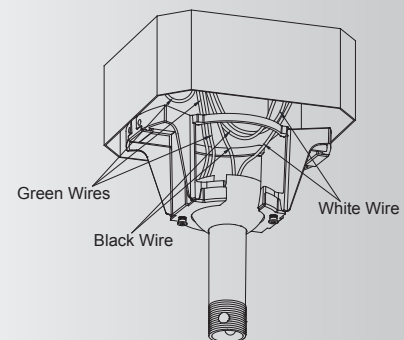

Fig. 13
Step 3. After connections have been made, turn leads upward and carefully push leads into the outlet box, with the white and green leads on one side of the outlet box and position the black leads on the other side of the outlet box. (Fig. 13)